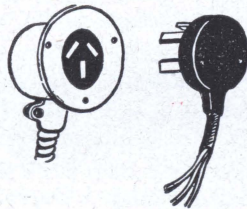
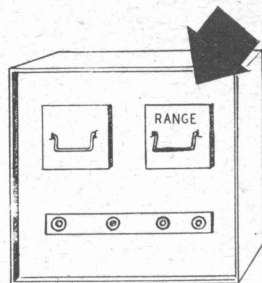

Fig. 49
Fig. 50
**Remedy:** If all surface units are not heating, see if range plug is pushed firmly into receptable. Fig. 49. If this is not the cause, try lights in other parts of the house to see if fuse is blown or power is off. Replace range or main fuses if blown. Fig. 50.